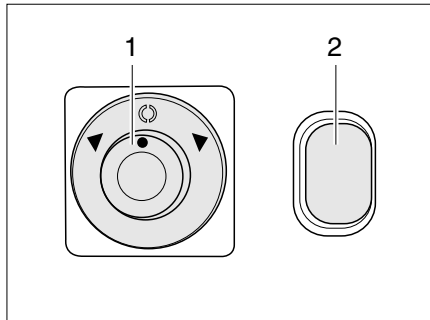

Fig. 28 Switch for electrically adjustable external mirrors and mirror heater
Adjusting: ■ Select the mirror to be adjusted. To do so, turn the rotary switch (Fig. 28,1) to the left or right.
■ Adjust the mirror by pressing the switch (Fig. 28,1) in the appropriate direction.
Switching on the heater: ■ Press the switch (Fig. 28,2). The switch indicator lamp lights up in orange and shows it is in operation.